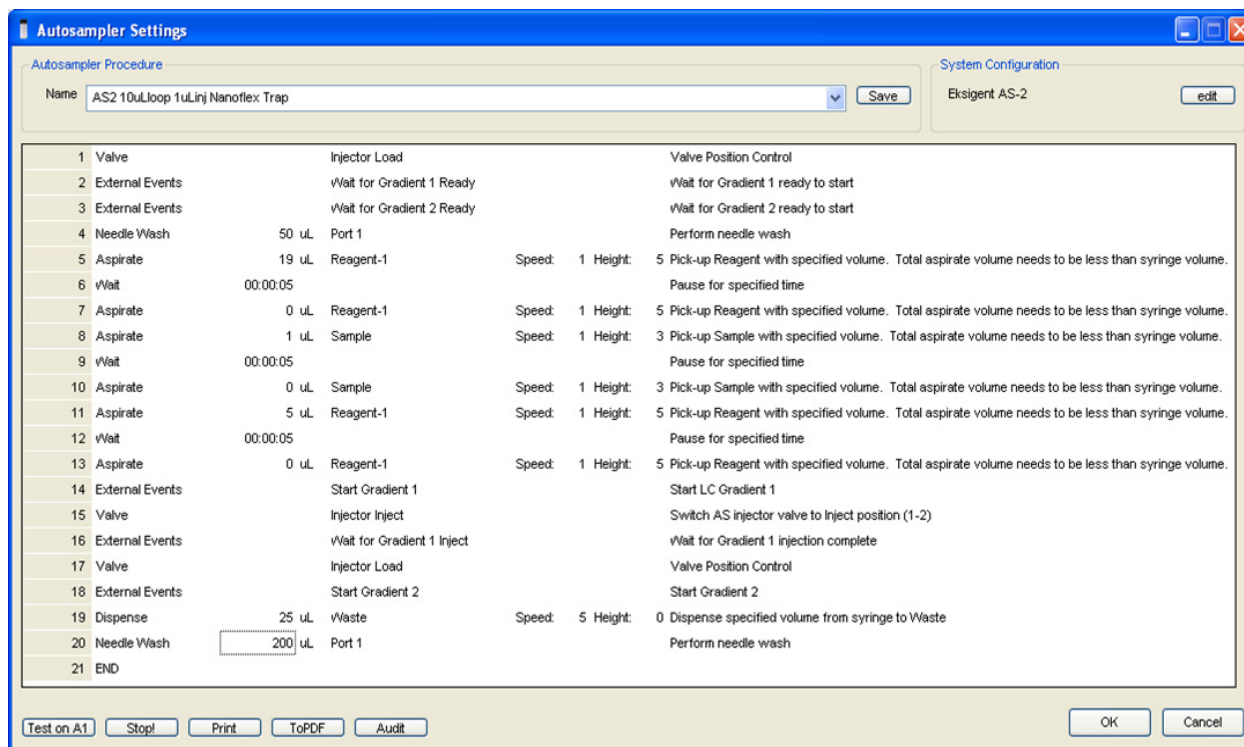
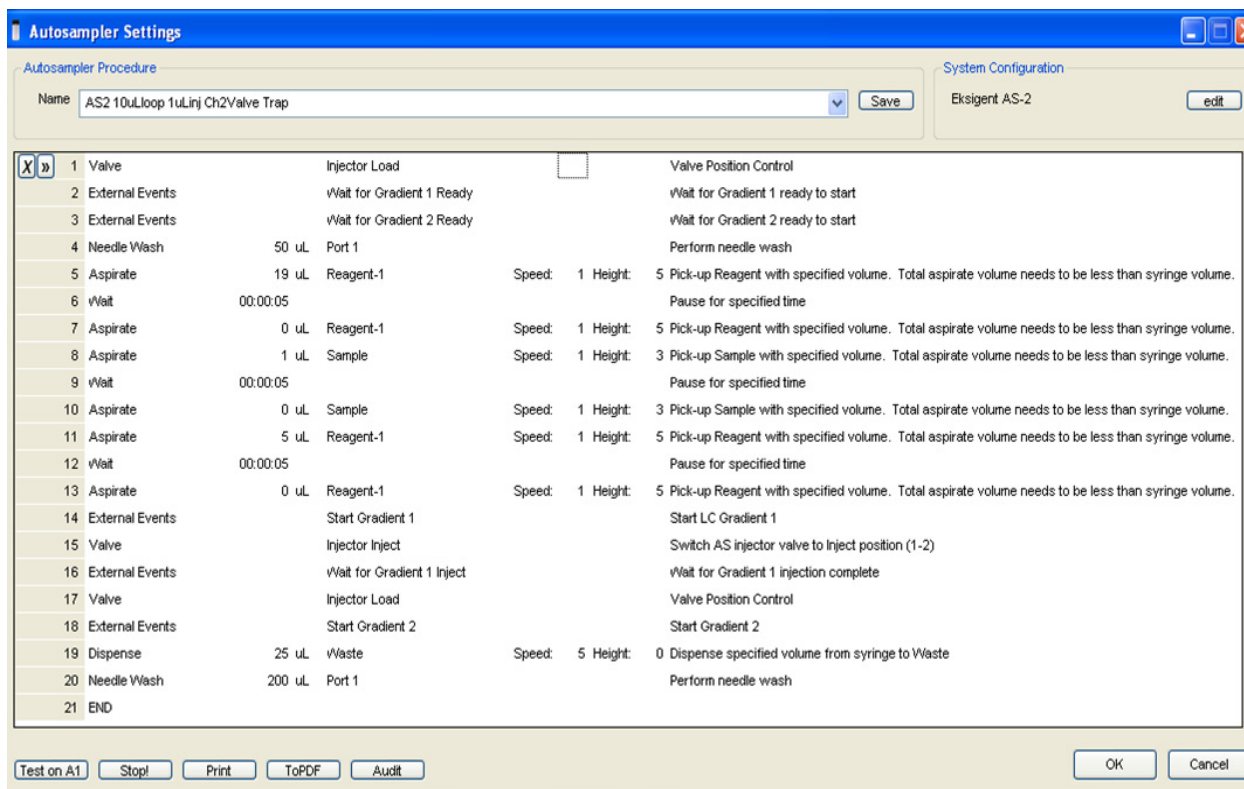

Figure 2-1 Autosampler Settings dialog—trap-elute configuration (Nanoflex system)
Figure 2-2 Autosampler Settings dialog—trap-elute configuration (column)
3. Create the autosampler method for a trap-elute configuration, as shown in Figure 2-1 or Figure 2-2.